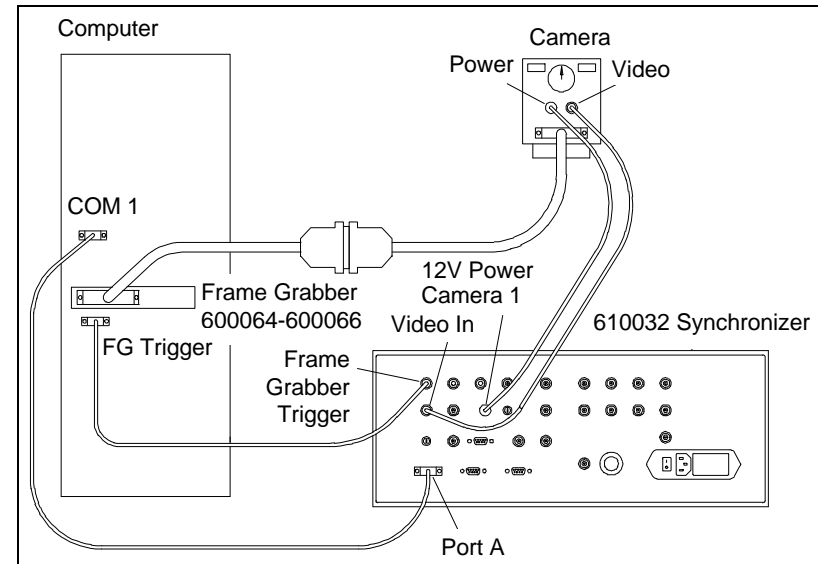
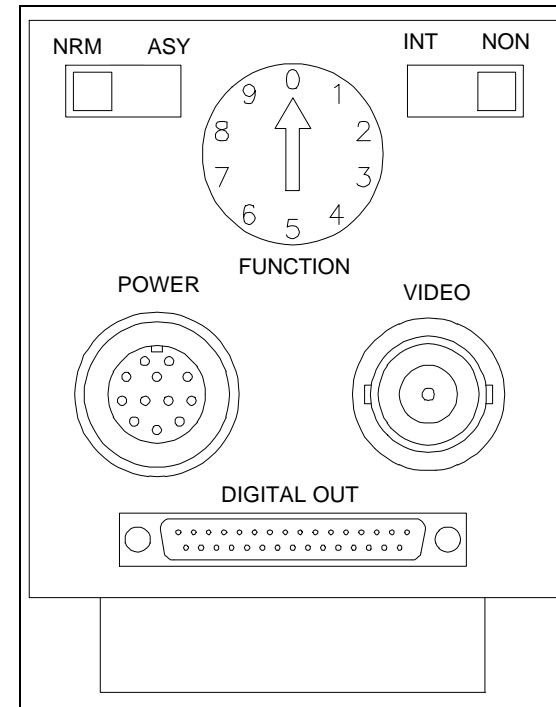

Figure 3
Figure 4
3. Check the switches on the back of the camera and make sure that they are at the settings specified in either Table 4 or Table 5. Table 4 and Figure 3 refer to the Model 630044D camera settings and Table 5 and Figure 4 refer to the Model 630045 PIVCAM 10-15 camera settings.